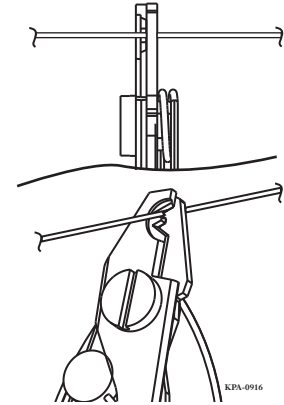

Figure 10 — Stripping Procedure
- Step 1:** Hold the tool perpendicular to the fiber (Figure 10).
- Step 4:** Strip the 900 micron buffer in two 20 mm increments with smooth straight pulls (Figure 10).